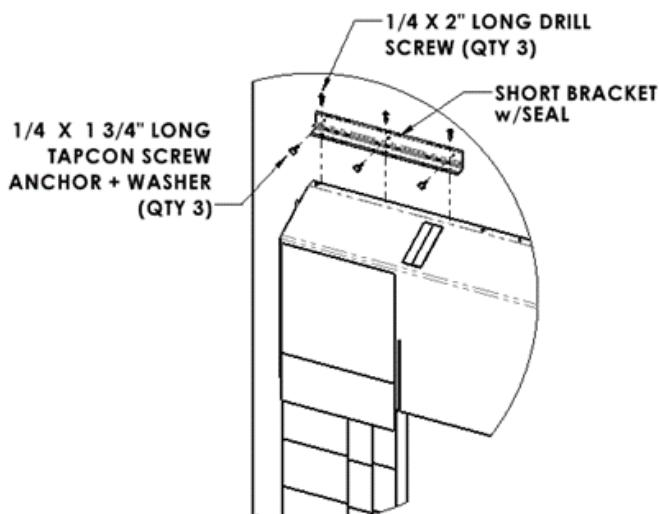

FIGURE 13
10. ATTACH THE (2) SHORT BRACKETS W/SEALS (B) TO THE TOP ENDS OF THE HOOD (E):
- a. Position the Short Brackets w/Seal (B) on the top left end of the Hood (E) and flush with the left end face of the 2x4 Header (F).
- b. The seal side has to lay flat on the top of the Hood (E).
- c. A total of (6) mounting holes need to be drilled in each Short Bracket w/Seal (B) for 3 fasteners into the building and 3 fasteners into the Hood (E) (Figure 13).
- d. Mark the (6) drilling locations on the bracket legs and then drill holes for the specified fastener sizes. Ensure the location of the end vertical screw is not in line with the horizontal anchor at the end of the 2x4 Header (F) and also not in line with the Roofing Nail (J) on the top end of the Hood (E).
- e. Use a 3/16" diameter masonry drill bit when drilling the 3 holes into the bracket for the 1/4"x1 3/4" Long Tapcon Screw Anchors (H).
- f. Secure the Short Brackets w/Seal (B) using the provided fasteners as shown below (Figure 13).